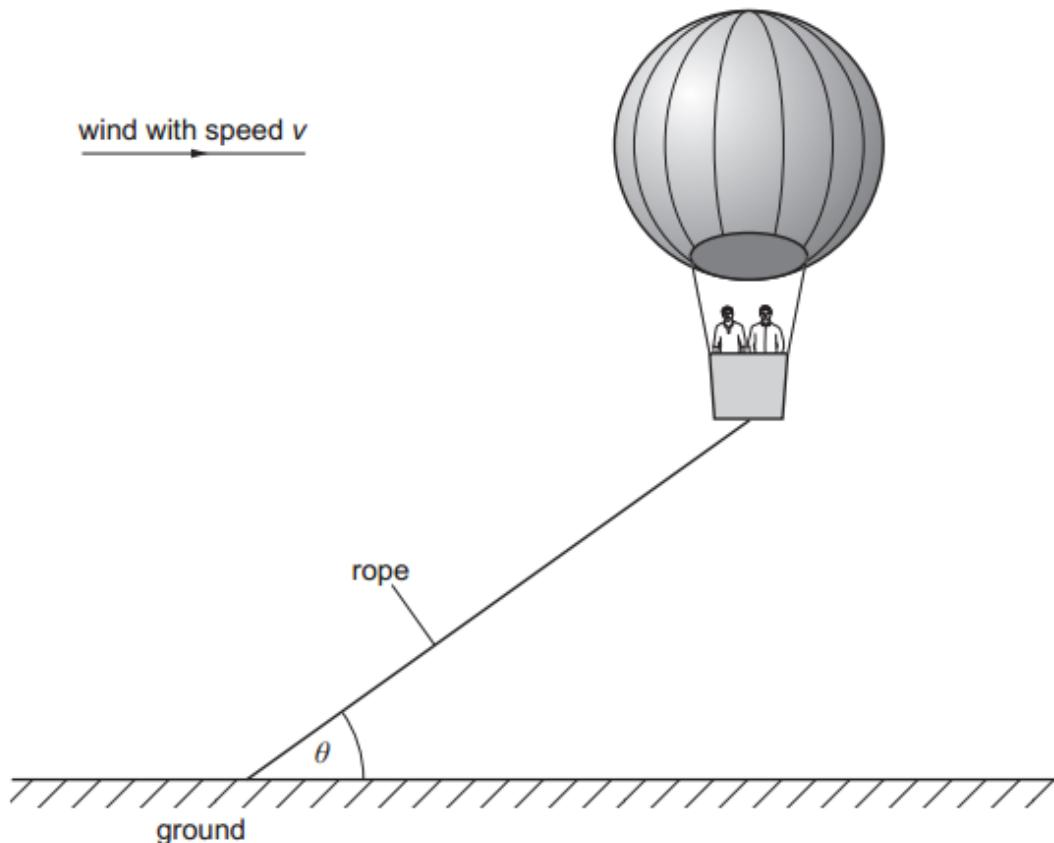

Fig 1.1
- 1 A hot air balloon is tied to the ground using a rope. As the wind blows with speed v , the rope makes an angle θ to the horizontal, as shown in Fig 1.1.